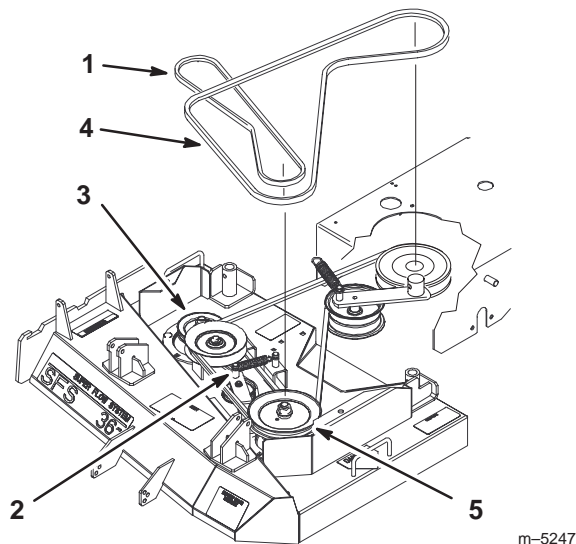

Figure 57
5. Disconnect the idler arm spring to relieve tension on the idler arm and idler pulley, then remove the worn deck belt (Fig. 57).
6. Install the new deck belt around the outward spindle pulley, the idler pulley, and in the lower groove of the double spindle pulley (Fig. 57).
7. Reconnect the idler arm spring (Fig. 57).
8. Adjust deck belt guide an 1/8 in. from belt (Fig. 57).